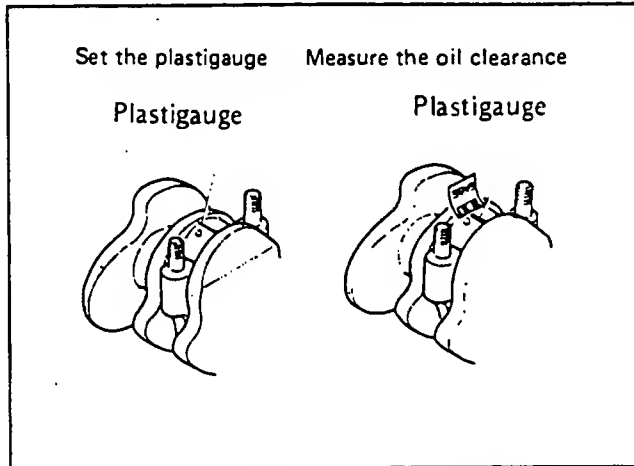

Figure 21. Measuring Oil Clearance
2. Cut a length of plastigauge to the same length as the width of the bearing. Place it on the crankpin, parallel with the crankshaft. DO NOT PLACE OVER AN OIL HOLE. See Figure 21.